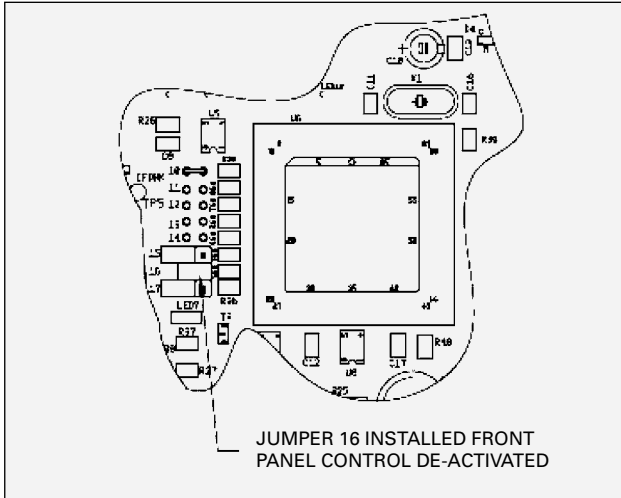

Figure 19: Jumper Location - Front Panel Lockout
3. Place the jumper across the two (2) pins at location 16 on the main PC board (See Figure 19).